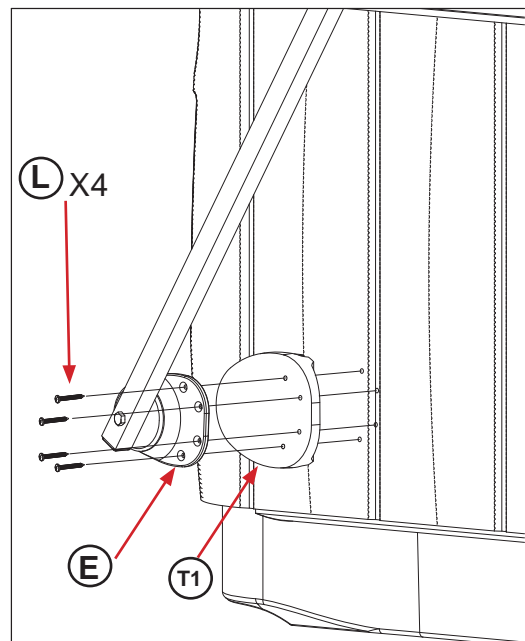

Figure 6.1
1. Remove the two screws (L) from the back of T1 or S1. Making sure that the holes on Spacer (T1) align with Bracket (E), secure bracket and Spacer (T1) to spa using 4 Flat head Screws (L) (Figure 6.1). Bag # 3 (L) (#10 2" Flat Head screws).